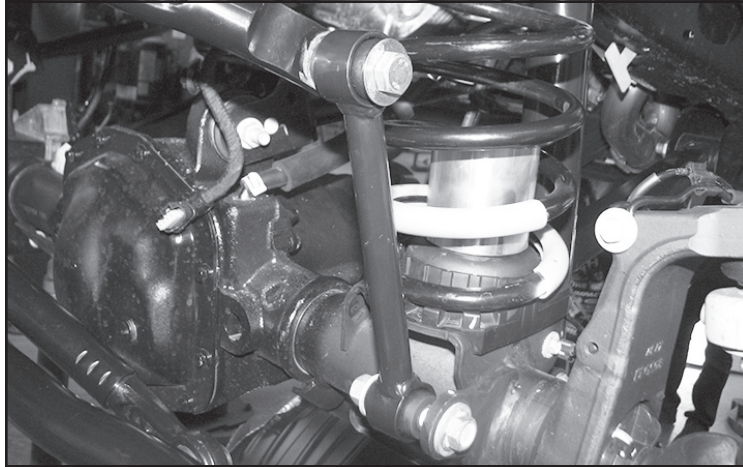

FIGURE 15 - STEP 16
16. Install FT50048 (Bushings) and FT404739 (Sleeves) into FT50026BK (Sway bar links). Then, install the links to the axle mount and sway bar using the supplied M12 x 70mm hardware for the upper location and the factory for the lower. Torque to 65 ft-lbs. **SEE FIGURE 15**